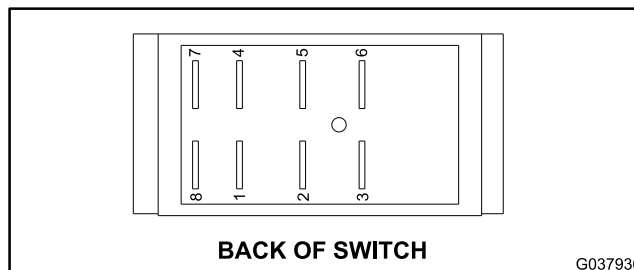

Figure 211
7. The steering selector switch terminals are identified in Figure 211 and the circuitry of the switch is shown in the Circuit Logic Table \(page 5–67\). With the use of a multimeter (ohms setting), test the switch functions to determine if continuity exists between the various terminals for each switch position. Check the continuity between the switch terminals.